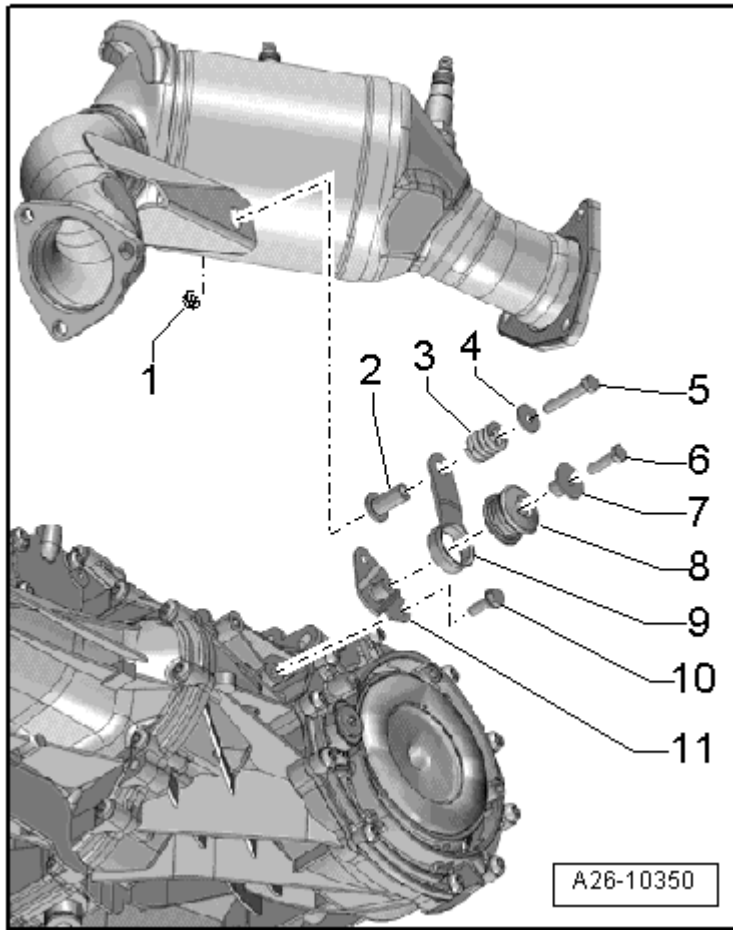

Fig. 9: Identifying Individual Catalytic Converter Mounting Components
- Individual components of suspension, refer to **Fig. 9**